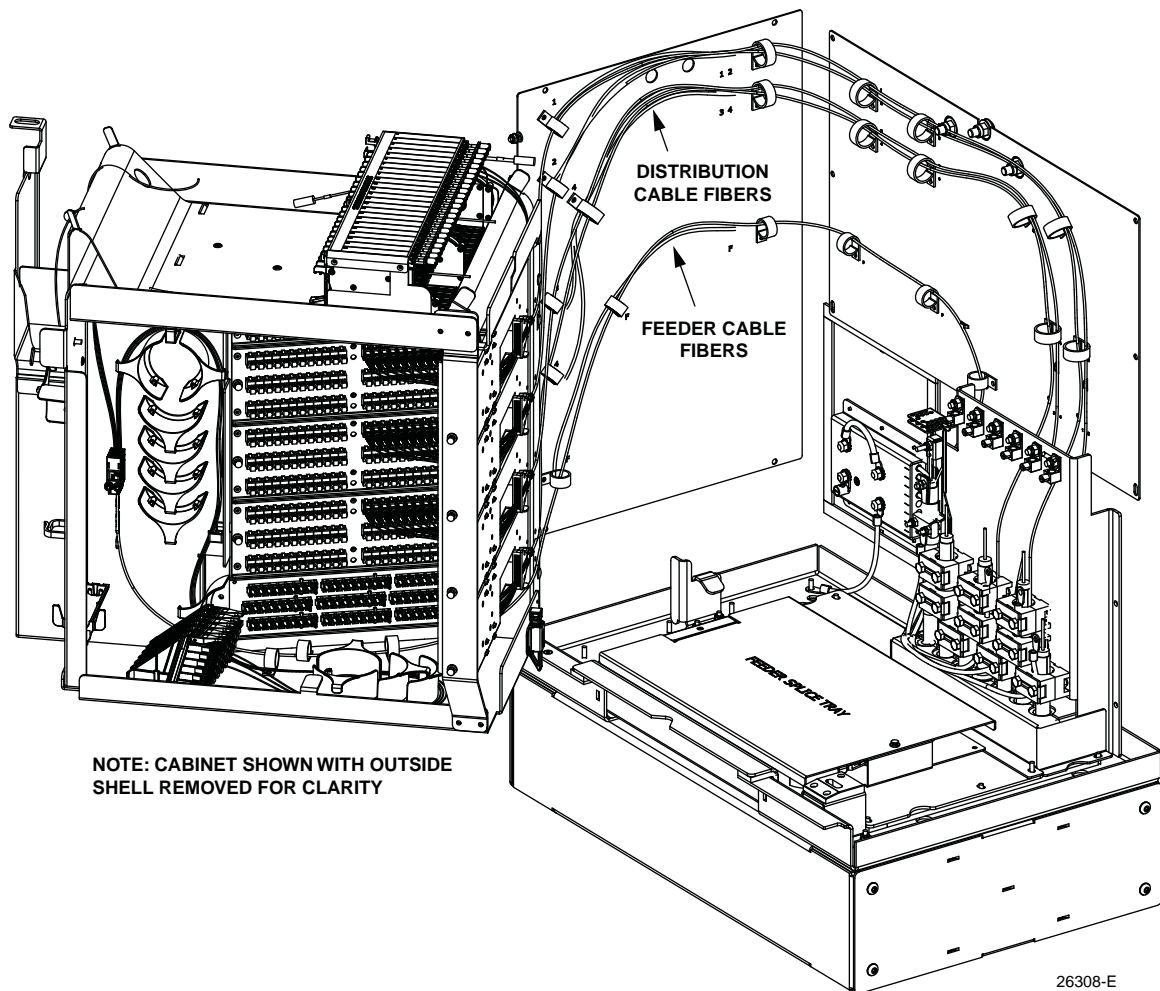

Figure 27. Route and Secure Distribution Cable Subunits
11. Route and secure the distribution cable subunit fibers to the back of cabinet as shown in Figure 27.